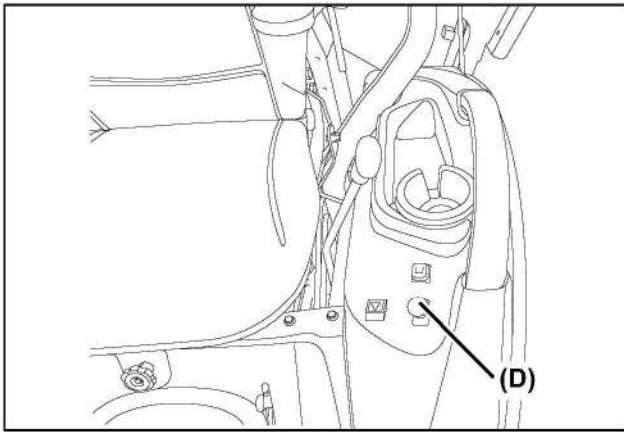

Fig 8-12
1. Push down Power Take Off (PTO) switch (Fig 8-12, D) to OFF position.